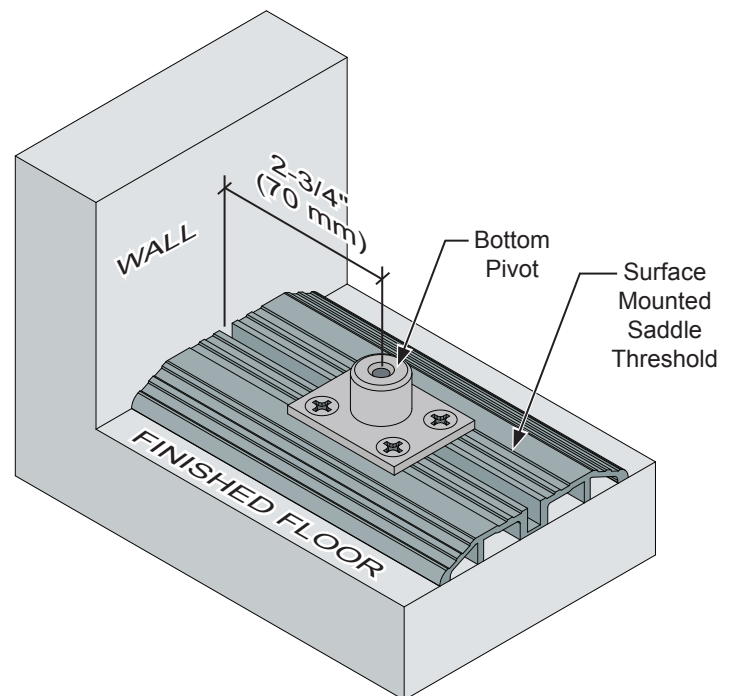

Fig. 7
2. The bottom pivot is installed onto the surface mounted saddle threshold 2-3/4" (70 mm) from the wall and on the centerline of the surface mounted saddle threshold. **(Fig. 7)**